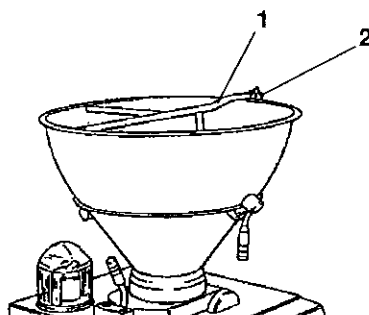

Fig. 4-10
The stopper (Fig. 4-10, 1 and 4-11, 1) is used in combination with the short scraper when filling raw sausage.
ROBBY: the stopper is inserted into two bores directly on the upper part of the hopper and tightened with the screwed spindie (Fig. 4-10, 2) on the outer edge of the hopper.
- Unscrew the screwed spindle on the outer edge of the hopper (Fig 4-10).